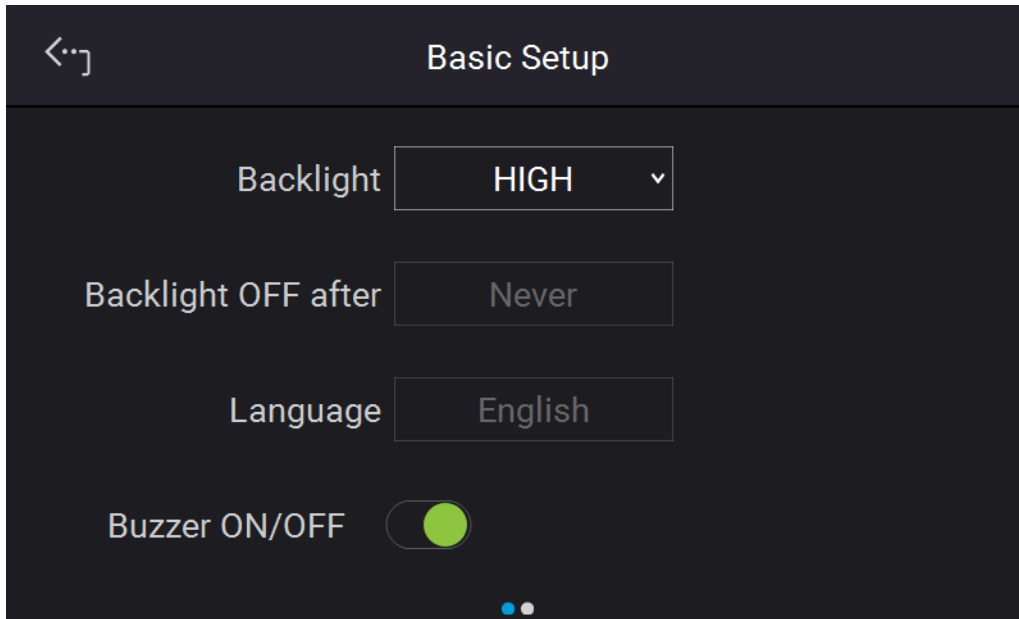
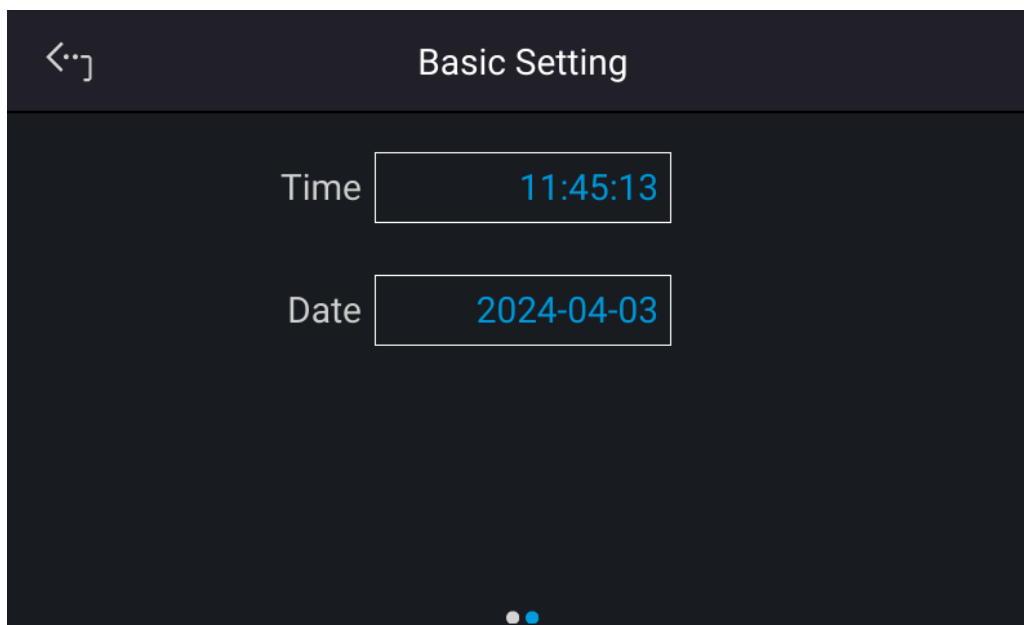

Figure 3-25
Figure 3-26
This function allows you to set the brightness of the backlight, language, buzzer, time, and date. On the Menu page, tap “System Setup” and select “Basic Setting”, the screen will appear as Figure 3-25 or Figure 3-26 shows.
4. Swipe the “Basic Setup” page left to set “Time” and “Date” in the format of hh:mm:ss and yyyy-mm-dd as shown in Figure 3-26.